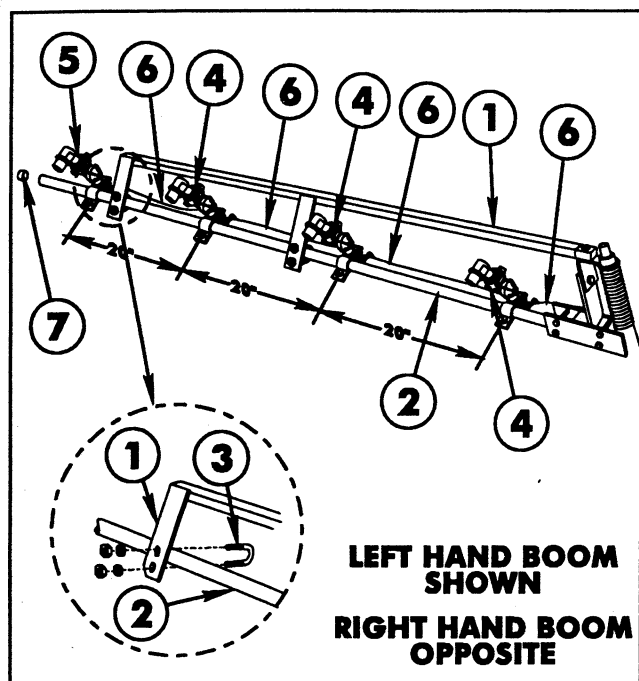

FIG. 13
12. Secure the two plates of the Boom Support Assembly to one of the Extension Boom Pipes, using two (2) 1/4" U-bolts, four (4) lock nuts and flat washers. See FIG 13.
15. Attach three double barb and one single barb Nozzle Assemblies on each Extension Boom Pipe as shown in FIG 13. Nozzles are to be spaced on 20 inch centers. Connect the Nozzle Assemblies with the 3/4" x 19" Jumper Hoses. Secure with hose clamps.